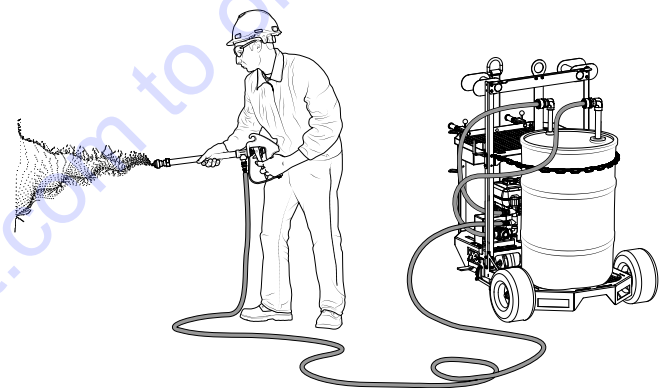

Figure 32. Liquid Dispersion
3. Aim the spray gun and pull the trigger to disperse liquids onto their final application (Figure 32). Release the spray gun trigger to stop dispersion.